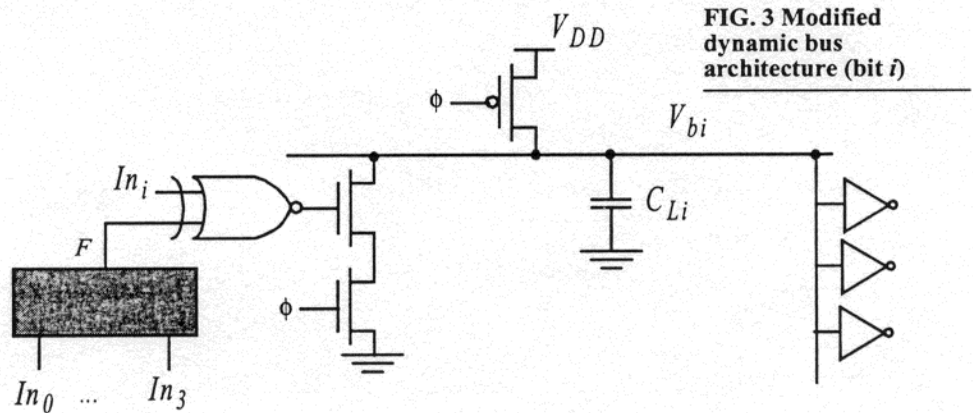

FIG. 3 Modified dynamic bus architecture (bit i)
d. Jari believes that he could reduce the average energy dissipation of the bus if he would modify the circuit along the lines of FIG. 3, which replaces the driving inverter by a NEXOR. The logic block F outputs a "1" if the number of "0" bits in the input word is larger than the number of "1" bits. For instance, $F = 1$, if $In = 0010$; $F = 0$, if $In = 0011$ or $In = 1110$. Explain why this idea of Jari might not be a bad one after all.
②